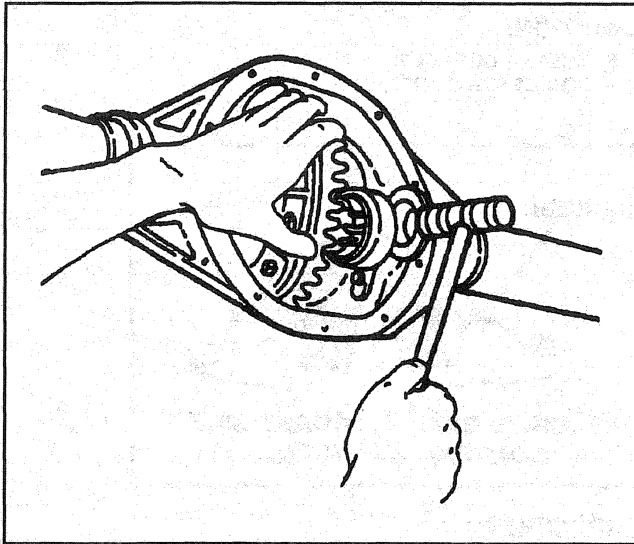

Figure 24—Installing the Final Preload Shim
1. Install the differential case, bearing cups, spacers, and shims as determined from the "Side Bearing Preload Adjustment" in this section (Figure 24).